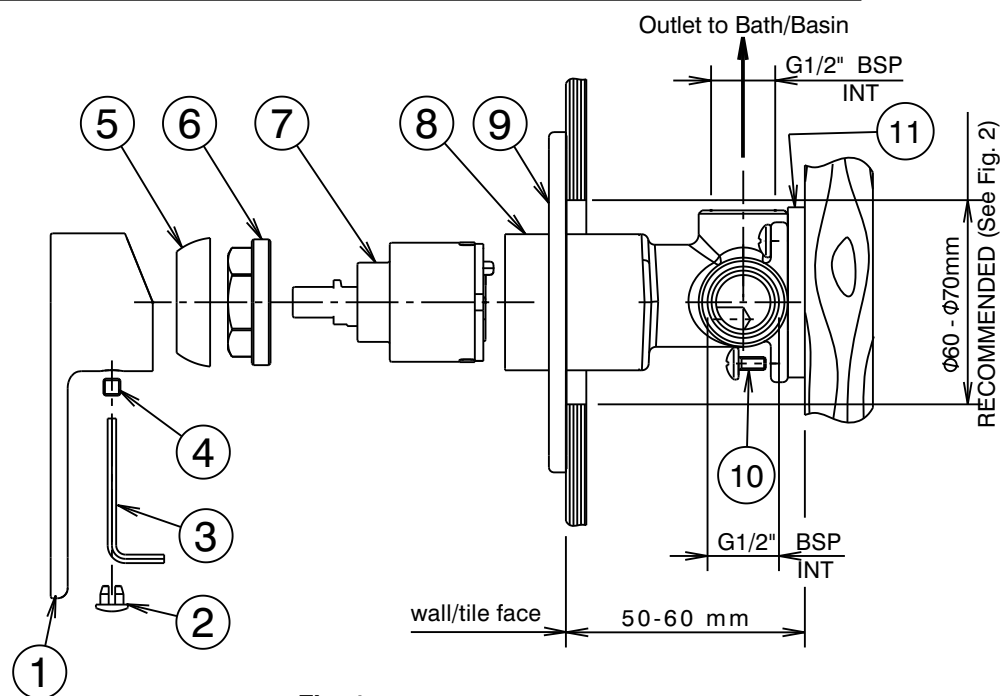
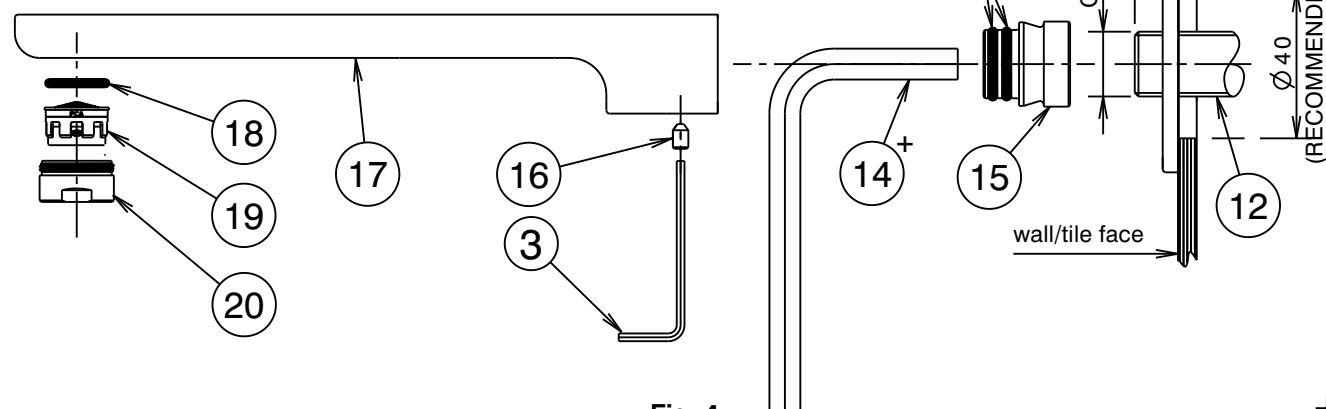

Fig. 1
Fig. 4
- 4) Apply a suitable clear sealant to the back face of the cover plate (9), leaving an unsealed section at the bottom for drainage. Carefully fit the cover plate (9) onto the mixer body (8), push firmly on the cover plate (9) until it contacts the wall/tile face. Wipe clean any excess sealant from the chrome surfaces & the wall/tile face (See Fig. 1). Check that the thread on the lugged elbow (12) is the correct length, as shown (Fig. 4). Cut to length if required ensuring end face is square. Apply thread tape to the thread. **Important:** Care must be taken that thread tape cannot become dislodged and block the flow regulating device, causing a reduction in water flow. To ensure correct installation, length of exposed thread must not exceed 10mm.
- 5) Fit handle (1) taking care that it is pushed fully onto cartridge stem, tighten screw (4) using the 2.5mm allen key (3) then fit plug (2).
- 6) Screw the spigot (15) onto the thread of the lugged elbow (12) using a 10mm allen key (14+) until the cover plate (9) is held securely against the wall/tile face. **DO NOT OVERTIGHTEN.** Apply suitable lubricant to 'O' Rings on spigot (15).
- 7) Fit wall outlet (17) onto the spigot (15), then carefully push it firmly against the cover plate while tightening grub screws (16) using the 2.5mm allen key (3) provided. Take care that the aerator housing (20) is pointing vertically downwards before tightening screws (16). (Fig.4)
#### Replacing Cartridge (Fig. 1)
#### Replacing Aerator Insert(Fig.4)